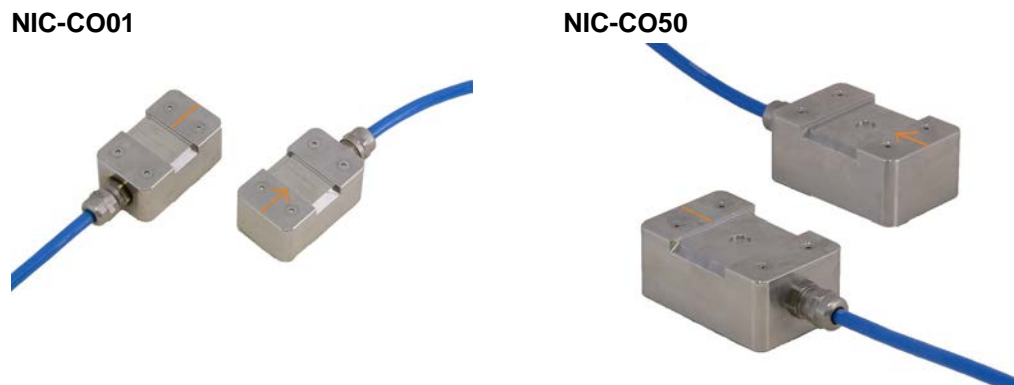

Fig. 10-64 Clamp-on sensor pairs
- the **arrow** engraved on the sensor pair (see Fig. 10-64) points in the direction of flow.